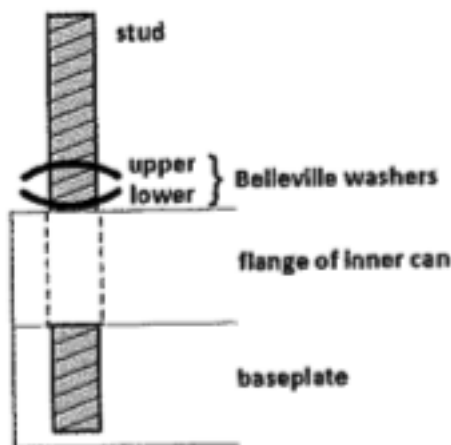

Figure 4: Sketch of the washer concave up and down.
- (a) Place the washers such that one is concave up and the other concave down as in Figure 4,